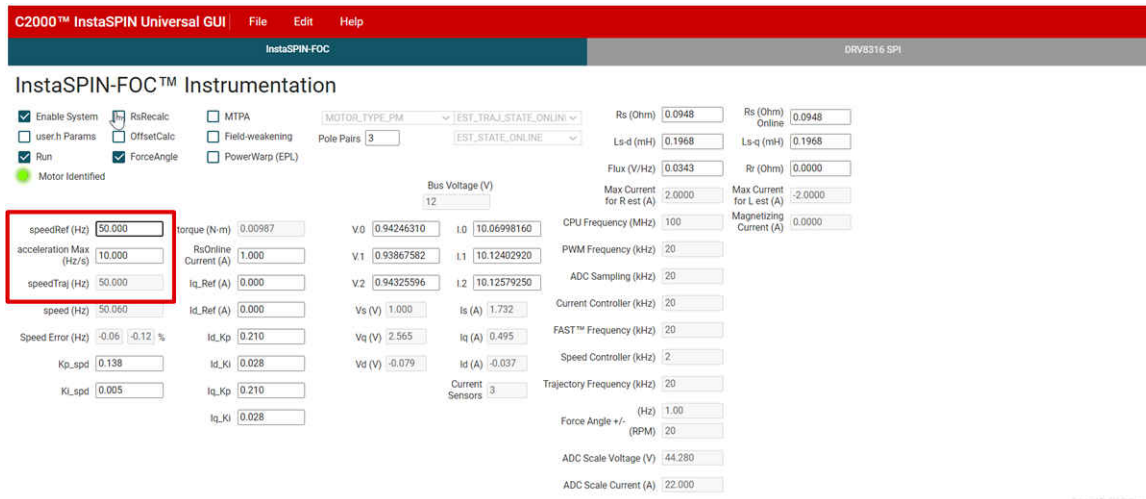

Figure 6-4. Sensorless Sinusoidal Commutation Using the DRV8316xEVM InstaSPIN™ GUI
- To spin the motor freely with a sinusoidal current profile, check the “Run” box again. The motor will spin with sinusoidal current at the speedRef (Hz) value in the GUI, which is automatically set to 20.0 Hz. Use the speedRef (Hz) input to change the current speed of the motor as shown in Figure 6-4. The GUI automatically calculates the current reference speed using the variable **speed (Hz)** and compares it to the trajectory speed variable **speedTraj (Hz)** to calculate the **Speed Error (Hz)** and as a percentage.